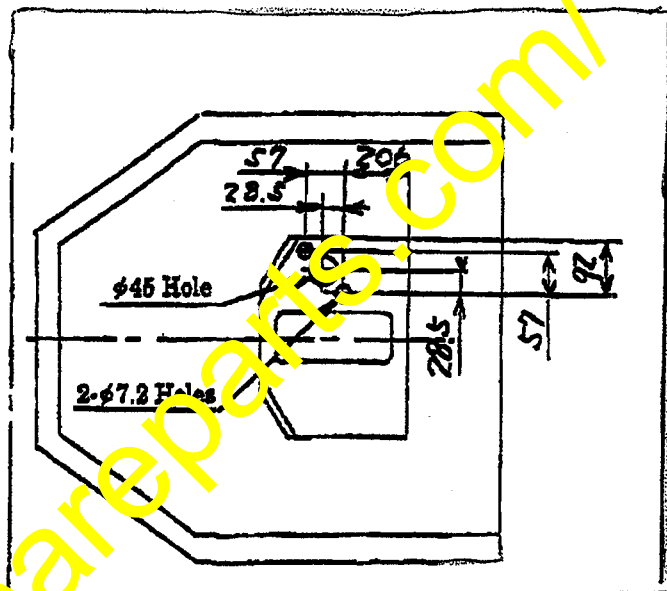

Fig 4. Reworking the floor frame
- ② Drill holes into the floor frame, referring to Figure 4.